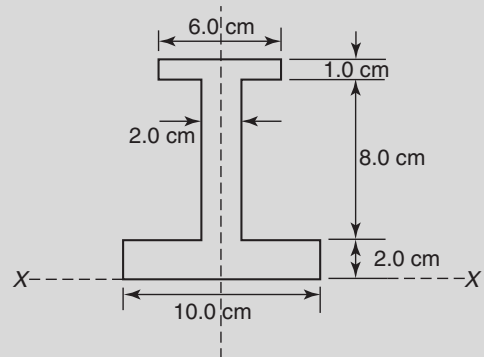

Figure A2.3
4. A beam of length 3 m is simply supported at its ends. If a clockwise couple of 4 kN m is placed at a distance of 1 m from the left hand support, determine the end reactions. (4)
5. If the beam in question 4 carries an additional downward load of 12 kN at a distance of 1 m from the right hand support, sketch the bending moment and shearing force diagrams. (5)
6. A beam of length 4 m is simply supported at its right extremity and at 1 m from the left extremity. If the beam is loaded with a downward load of 2 kN at its left extremity and with another downward load of 10 kN at a distance of 1 m from its right extremity, sketch its bending moment and shearing force diagrams. (6)
7. (a) Find the second moment of area and radius of gyration about the axis  $XX$  for the beam section shown in Figure A2.3.